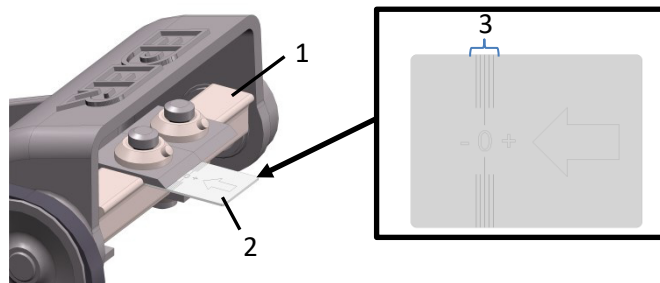

Figure 5: Set knives
- > Loosen the inside six-cantor of the knife with an inside six-edge key 6 mm.
- > Slide the adjustment apprenticeship (2 – Fig. 5) under the knife to the peel roller(1 – of Fig.5)in arrow direction.
Warning: The cutting edge of the knife must be in the marked range (3 – Fig.5).